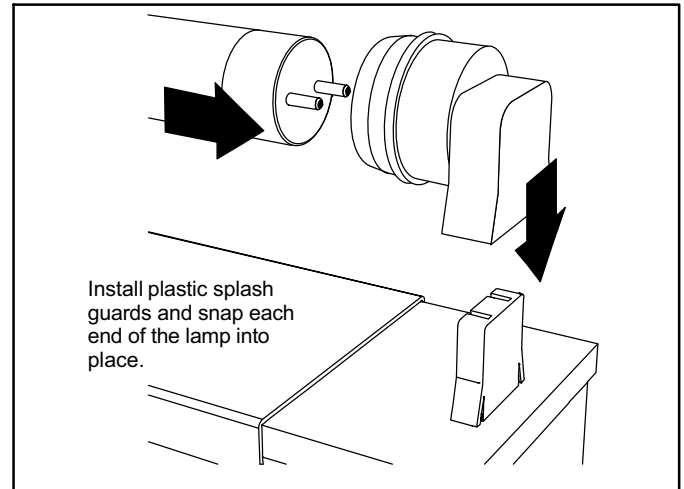

Figure 2. Installing Lamp in Holder Clips
plastic splash guards from the (2) lamp holders of the UVC assembly. Gently but firmly push in the splash guards on each end of the lamp (see figure 2). Align and insert the lamp with splash guard into the lamp holders of the UVC assembly until each end clicks into place (see figure 2).
5. Remove the (3) mounting screws of the UVC assembly. Carefully remove the complete UVC assembly out through the blower access door.
7. Wear cotton gloves or use a cotton cloth when handling the new lamp. Gently but firmly push in the splash guards on each end of the lamp. Align and insert the lamp with splash guard into the lamp holders of the UVC assembly until each end clicks into place (see figure 2 on Page 5).